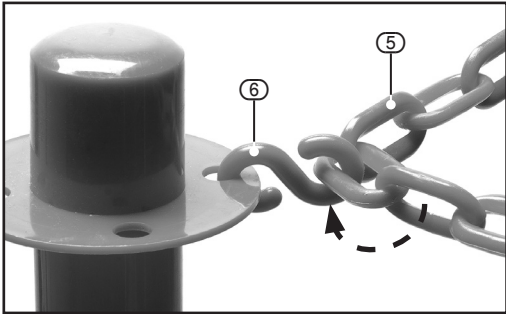

FIG. 5
4.5 FITTING THE CHAIN – FIG. 5.
- Connect the barrier chain (5) to an ‘S’ hook (6) by threading the free end of the hook through the chain links.